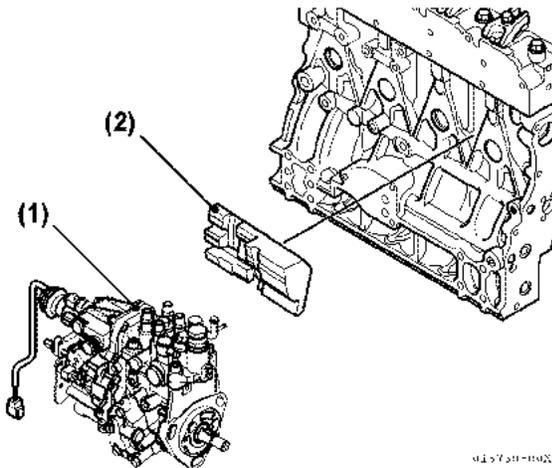
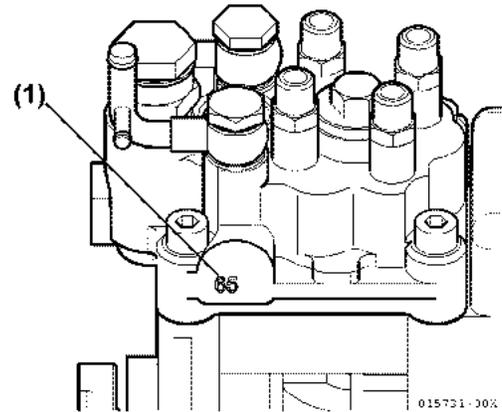

Figure 6-37
Figure 6-38
Note: The intake manifold and fuel injection pump insulator (Figure 6-37, (2)) may need to be removed to access the inner fuel injection pump (Figure 6-37, (1)) retaining nuts.
23. Remove the fuel injection pump (Figure 6-37, (1)). For purposes of future injection timing purposes, record the fuel injection pump timing index number located on the boss on the engine side (back) of the fuel injection pump (Figure 6-38, (1)). **NOTICE:** Do not rotate the crankshaft while the injection pump is removed.